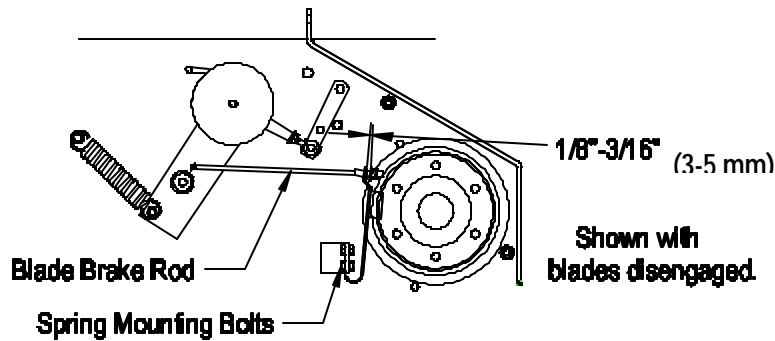

FIGURE 22
- Make sure the blade brake pad rests against the sheave. Adjust the spring mounting bolts to properly align the pad on the sheave. See Figure 22.
- Check the distance between the spacer and the nut at the end of the blade brake rod. The distance should be between 1/8" and 3/16" (3 – 5 mm). See figure 22.